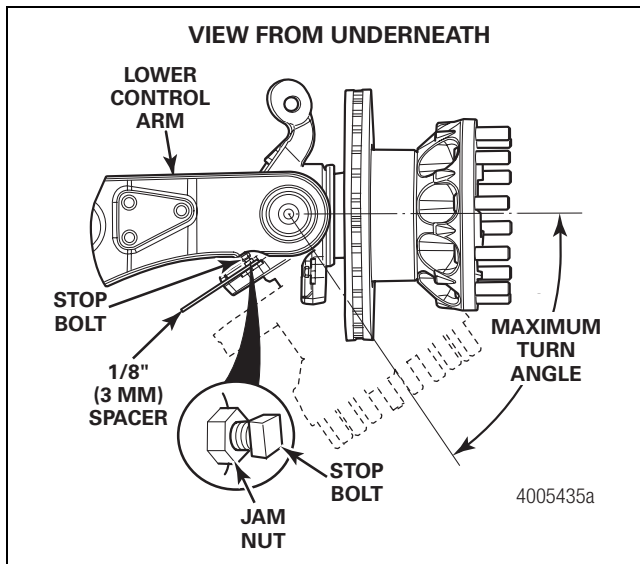

Figure 8.2
2. Turn the steering wheel until the boss on the lower control arm touches the spacer in front of the stop bolt. Measure the turn angle. Figure 8.2.
- A. Loosen the stop bolt jam nut. Figure 8.2.